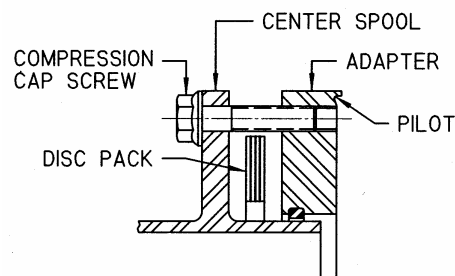

Figure 4
B. On sizes 150 thru 600, use the cap screws provided by inserting them from the center spool side and threading them into the adapter as shown in Figure 4. Compress both disc packs by tightening up each cap screw the same amount. **Be careful to compress both ends equally and only enough to allow the center member to fit between the hubs.**